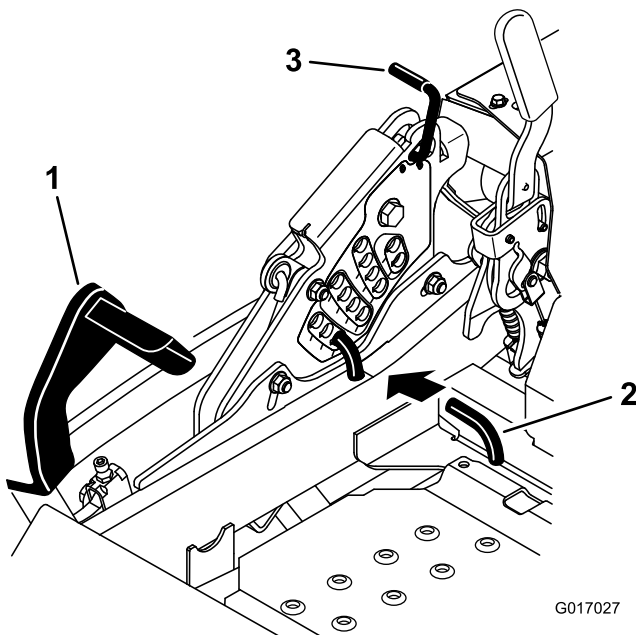

Figure 27
2. Push on the deck-lift pedal with your foot and raise the mower deck to the transport position (also the 140 mm (5-1/2 inch) cutting-height position); refer to Figure 27.
3. To adjust, rotate the pin 90 degrees and remove the pin from the height-of-cut bracket (Figure 27).
4. Select a hole in the height-of-cut bracket corresponding to the height of cut desired, and insert the pin (Figure 27).